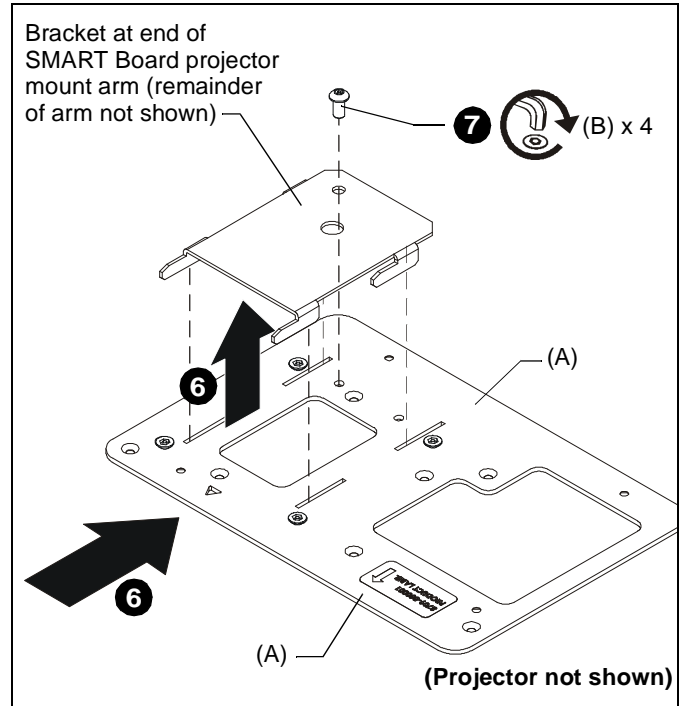

Figure 2
6. Lift interface bracket (A) with projector up to end of the existing SMART Board projector mount arm, and slide interface bracket slots onto hooks. (See Figure 2)
7. Fasten interface bracket (A) to end of SMART Board projector arm using one 1/4-20 x 1/2" button head security screw (B). (See Figure 2)